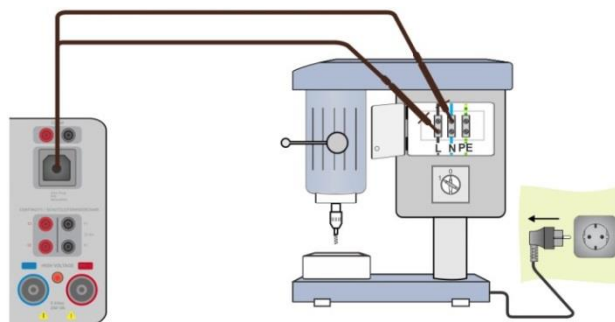

Figure 6.148: Discharging time measurement
- ▶ Connect Residual voltage cable to the instrument and to the device under test (DUT), see **Figure 6.148**.